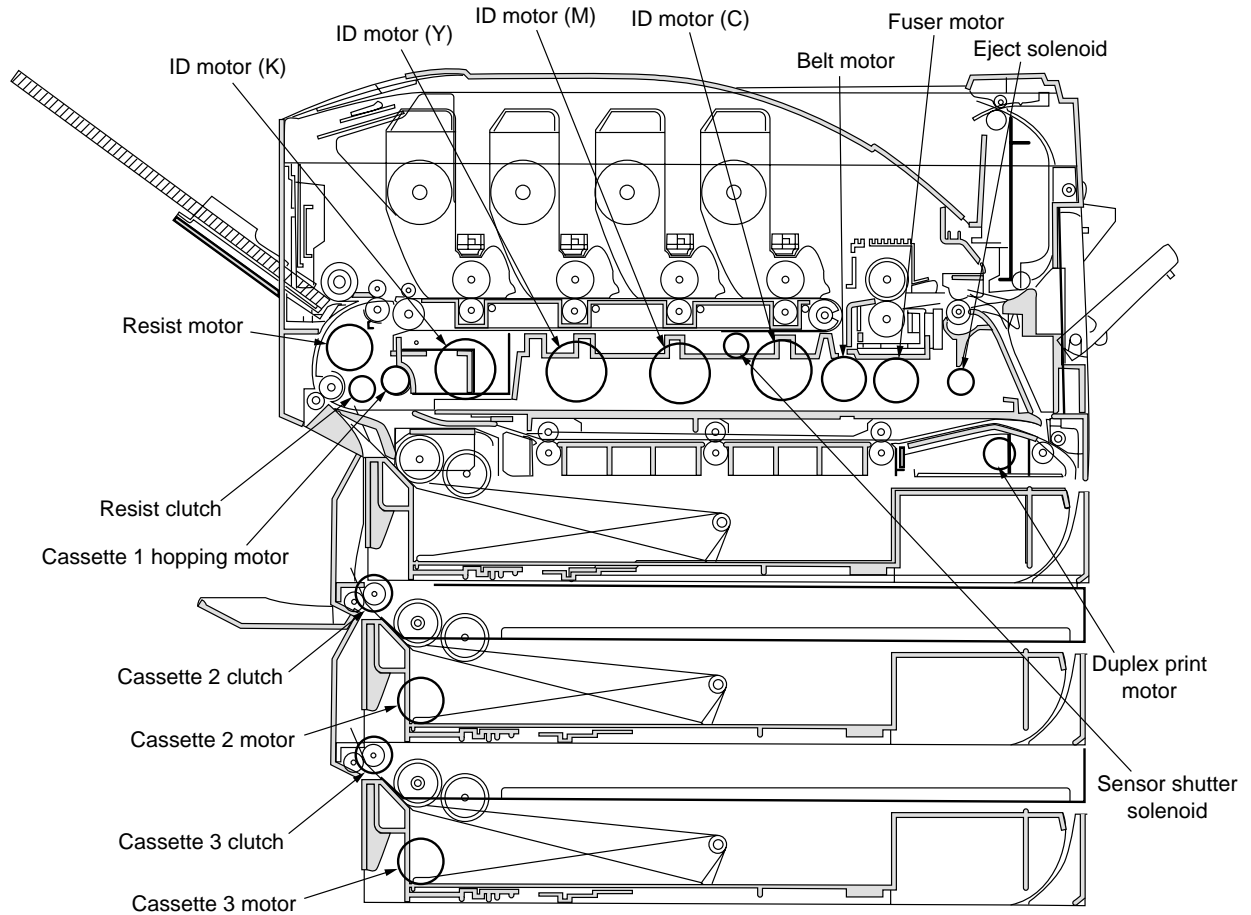

Figure 4-3
3. The test starts by pressing the ③ key. The name of the unit begins to blink and the corresponding unit drives for 10 seconds. (See Fig 4-3.)